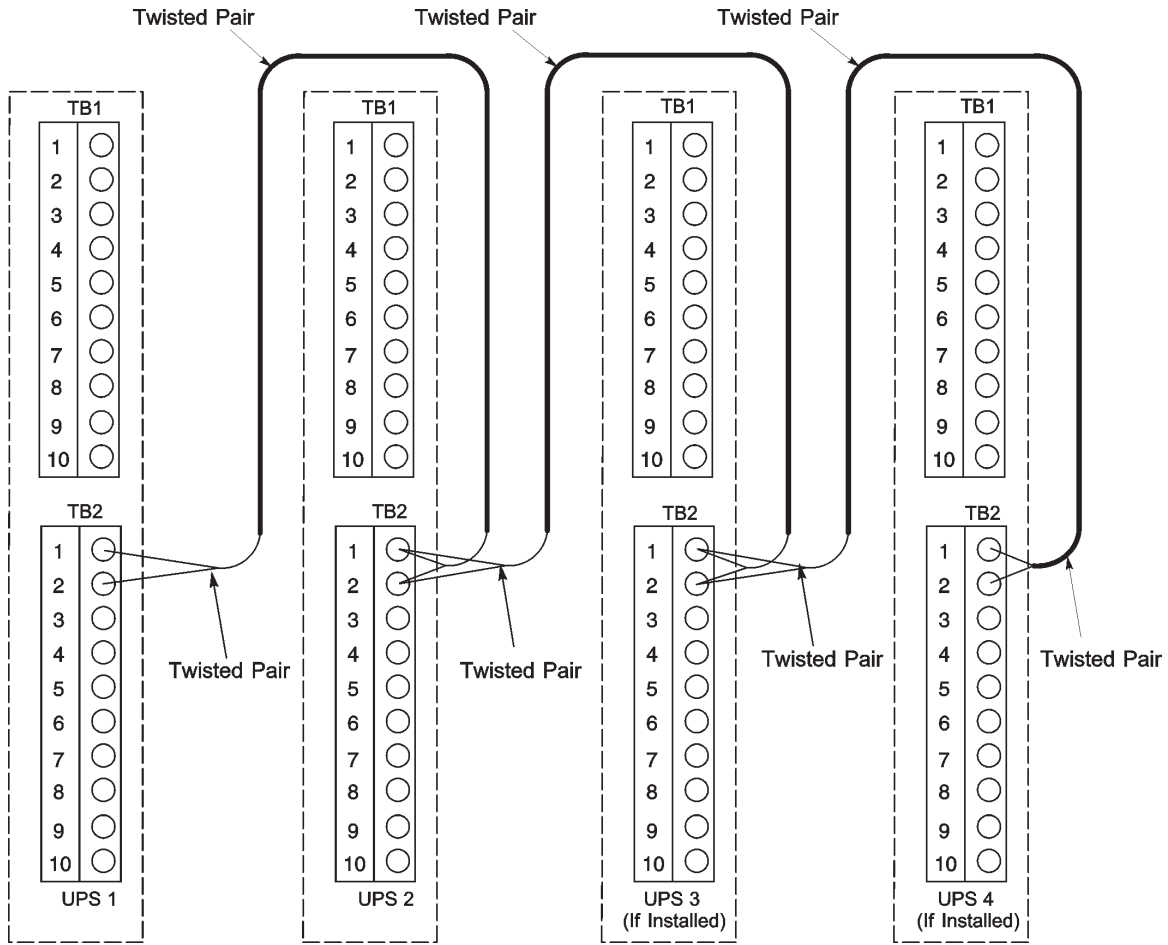

Figure 5-5. Distributed bypass Pull-Chain wiring without MOB's
9. Route and install distributed bypass system pull-chain wiring between the UPS cabinets. See Figure 5-5 and Table 5-3 on page 58 for wiring information.